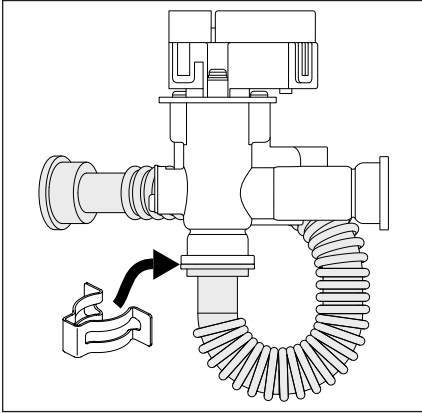

Figure 55 - Install Flex Hose to Smart Valve
- 12** Remove new Smart Valve from service kit. Install male end of flex hose with o-ring to Smart Valve outlet as shown in Figure 55.
- 13** Remove one (1) spring clip from kit. Install spring clip over Smart Valve outlet and flex hose to secure the assembly as shown in Figure 55.
- 15** Carefully install Smart Valve inlet to cold t-nipple. Remove one (1) spring clip from kit. Install spring clip over Smart Valve inlet and cold t-nipple to secure Smart Valve.